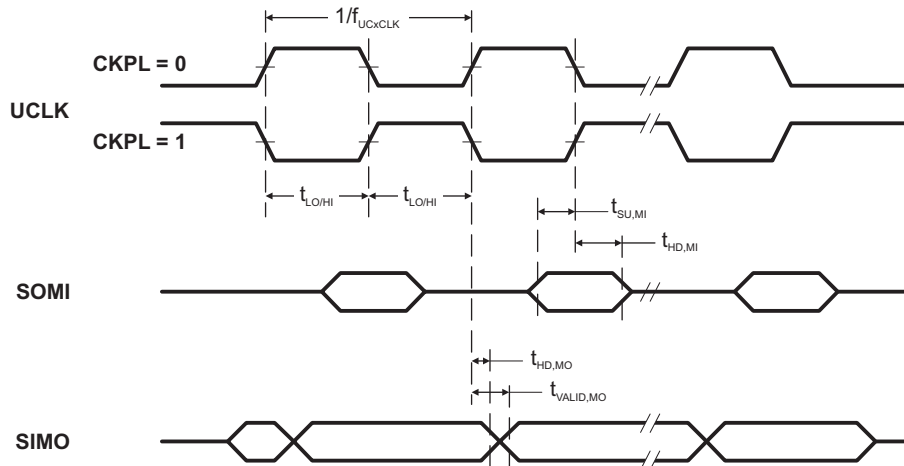

Figure 12. SPI Master Mode, CKPH = 0
(see Figure 12 and )
- (1)  $f_{UCxCLK} = 1/2t_{LO/HI}$  with  $t_{LO/HI} \geq \max(t_{VALID,MO}(USCI) + t_{SU,SI}(Slave), t_{SU,MI}(USCI) + t_{VALID,SO}(Slave))$ . For the slave's parameters  $t_{SU,SI}(Slave)$  and  $t_{VALID,SO}(Slave)$ , see the SPI parameters of the attached slave.
- (2) Specifies the time to drive the next valid data to the SIMO output after the output changing UCLK clock edge. See the timing diagrams in Figure 12 and .
- (3) Specifies how long data on the SIMO output is valid after the output changing UCLK clock edge. Negative values indicate that the data on the SIMO output can become invalid before the output changing clock edge observed on UCLK. See the timing diagrams in Figure 12 and .